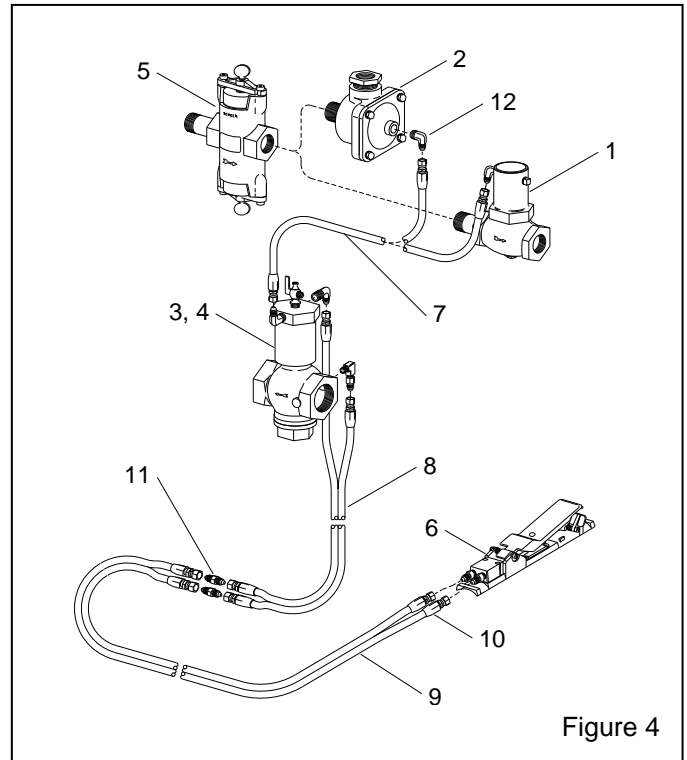

Figure 4
**7.2 System Replacement Parts, Figure 4**
All other parts are the same as shown in Section. 7.2 and Figure 4. Refer to the RLX manual for replacement parts for the ACS Control. Refer to the metering valve manual for metering valve replacement parts.